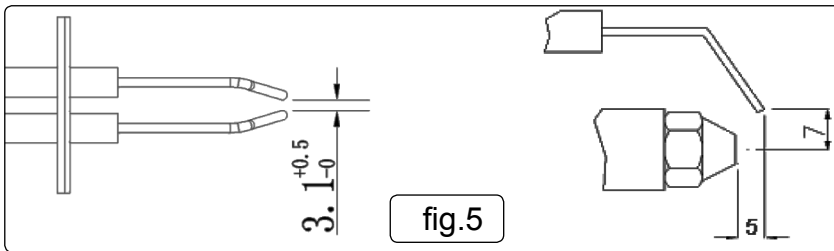

fig.5
8.2.6. Clean, adjust and if necessary replace ignition electrode. For electrode gaps see Fig. 5 (dimensions in mm).